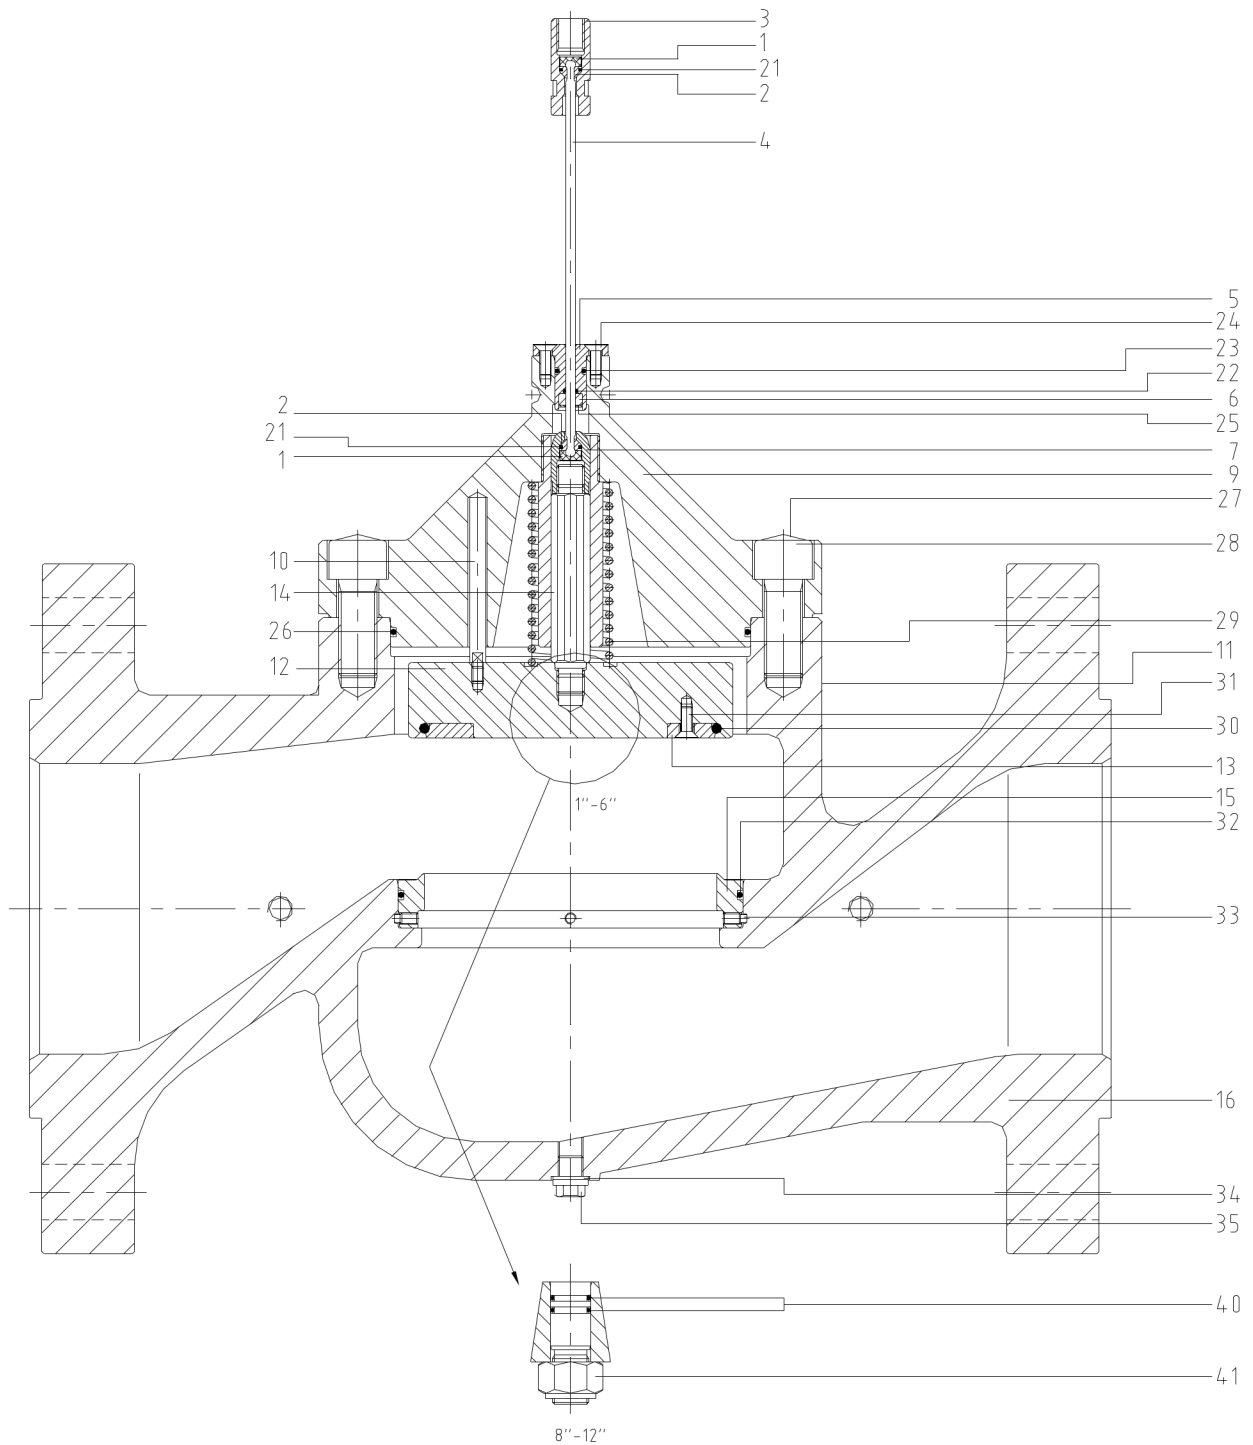

Figure 7a: Valve and valve body HON HSV086
(see also figure 7a)
1) Not included in figure 7a